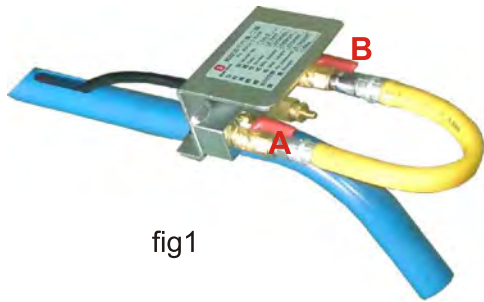
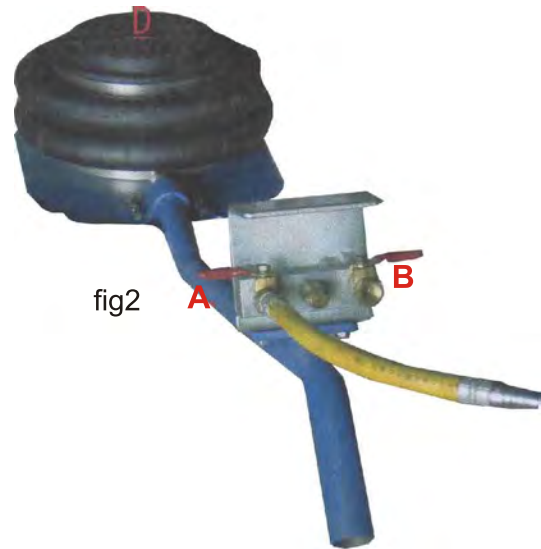

fig1
fig2
- 1.As you receive goods will be like fig1, please choose A or B side to connect air hose like fig2.
- 2.Before using, turn off A and B and check D have down to end (as fig2).